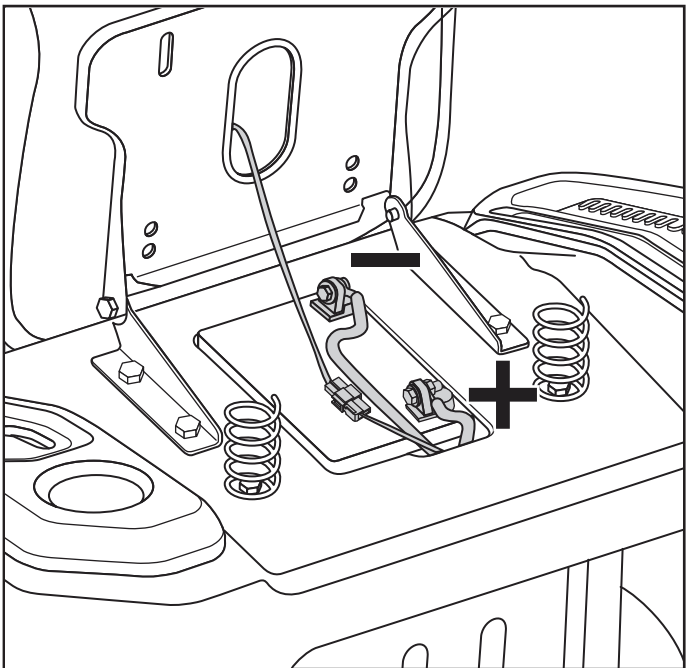

Fig. 34
2. Disconnect the NEGATIVE (-) cables from the battery first.(Fig. 34)